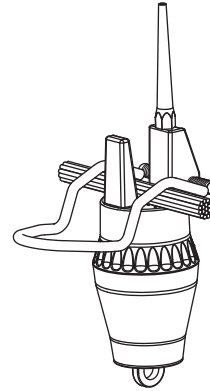

Figure 5 Final WSO-11 Position
- Step 6. Position the unit so that the hookeye points towards the ground (see *Figure 5*).